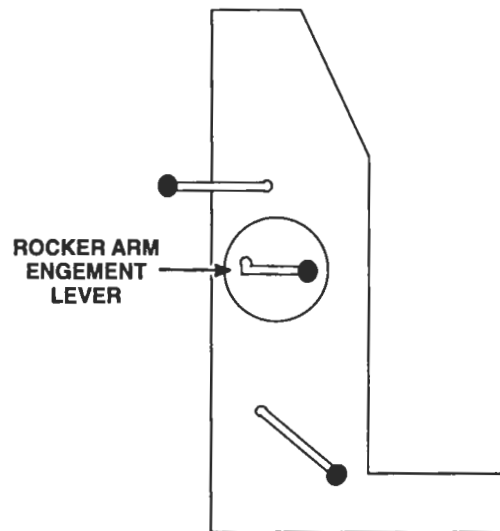

Figure 4. Position of Rocker Arm Engagement Lever
3. Move the rocker arm engagement lever to the forward detent (Figure 4.)